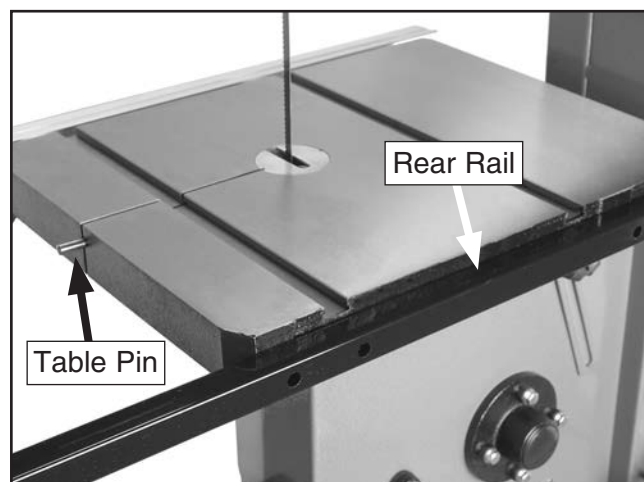

Figure 11. Rear fence rail attached to table.
15. Fasten the rear fence rail to the back of the bandsaw with two 1/4"-20 X 5/8" cap screws, as shown in **Figure 11**.